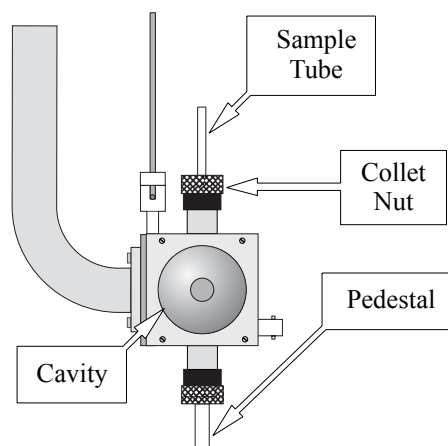
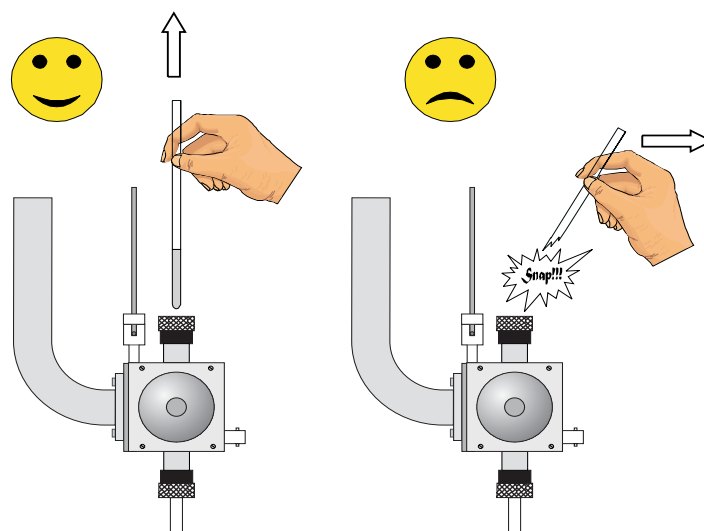

Figure 3-9 A Bruker ER 4122SHQ cavity.
Figure 3-10 The right and wrong technique for removing a sample.
4. **Remove the sample.** If there already is a sample in the cavity, remove it. Loosen the top collet nut (You do not need to remove the collet nut.) and carefully remove the sample from the cavity. Pulling the sample tube out as straight as possible prevents you from breaking the sample tube thereby destroying your valuable samples. (See Figure 3-9 and Figure 3-10 for details.) The ER 4122SHQ cavity is shown in the figures; however, the procedure of removing and inserting a sample is the same for ER 4102ST, ER 4122SHQ, and ER 4122SHQE cavities.
6. **Insert the sample tube carefully into the cavity.** (See Figure 3-9 and Figure 3-10.) Make sure you have the appropriate collet size for your sample tube size. The tube should be slightly loose before you tighten the collet nut. The bottom of your sample should rest in the indentation on the pedestal. This ensures that your sample is centered horizontally. The height can be adjusted by loosening the bottom collet nut and moving the pedestal up and down. Tighten the top collet nut to firmly hold the sample tube in place and the bottom collet to firmly hold the pedestal.